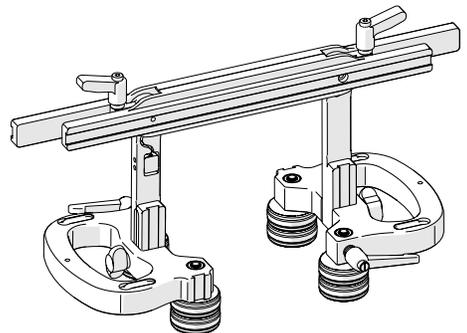

Fig. 26 - Simple wheel block positioning
2. Allow the sides of the frame bar to lower 90° (Fig. 26).